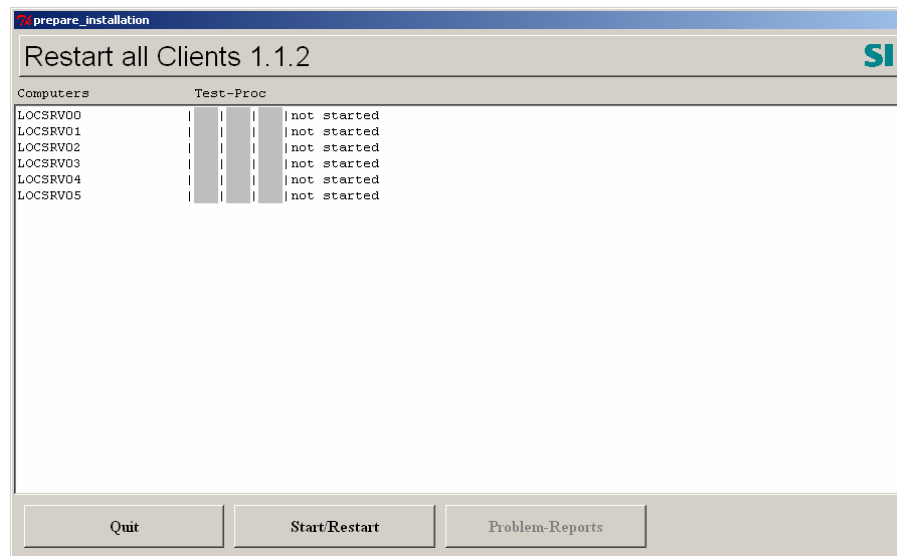

Figure 1-213. After Deploy Windows
5. Click **Start/Restart** to finish the installation and to reboot all clients (Figure 1-213). Wait until all computers are listed in green color.